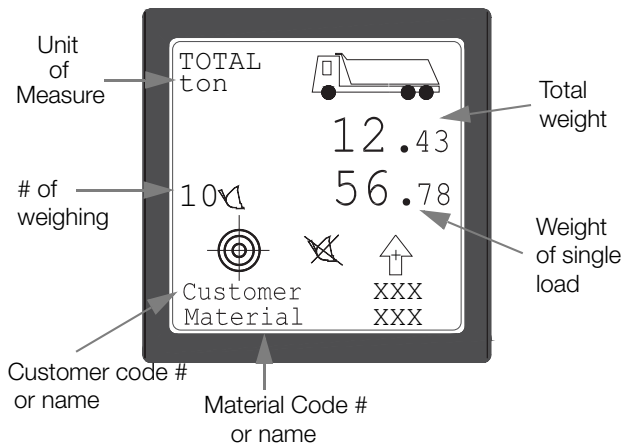

Figure 4-1. Display After Finished Weighment
3. When the audible signal is finished, the central unit display will show the unit of measurement, the number of weighing, the customer code number or name, the material code number or name, the total weight, and the weight of the single load. See Figure 4-1.